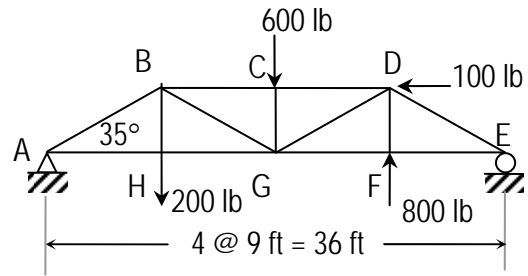

Figure 2a.
- A parallel chord truss is shown in the Figure 2a has the following support reactions: